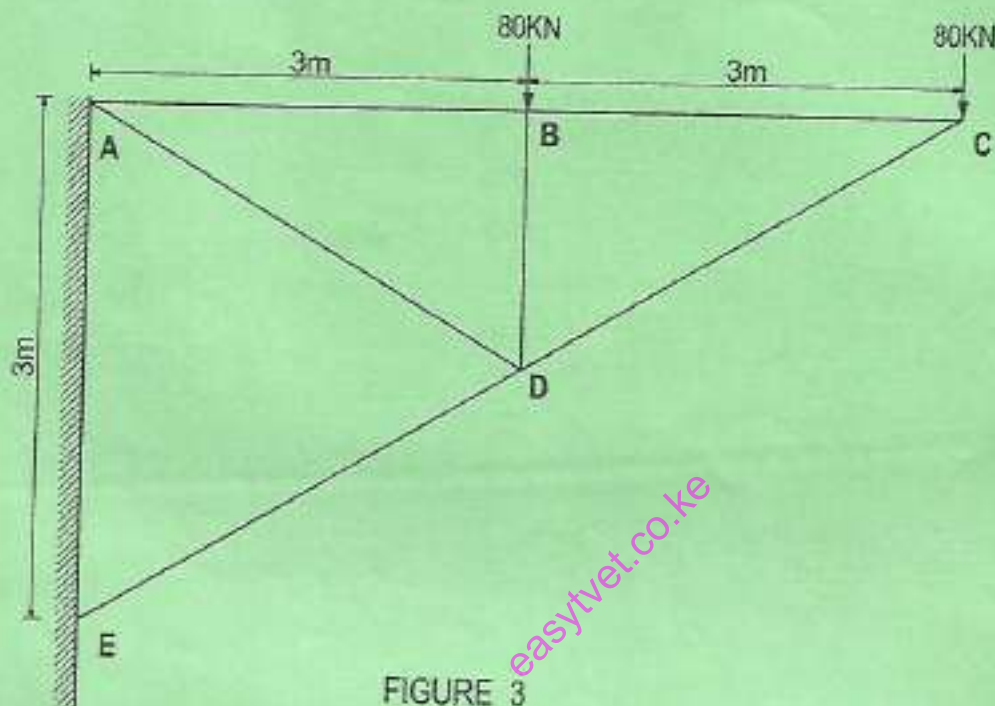

FIGURE 3
- (b) Figure 3 shows a loaded cantilever truss. Using the method of joint resolution, determine the forces in all the members. (12 marks)